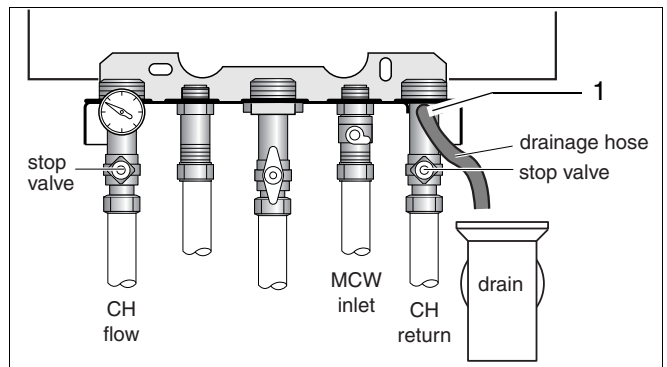

fig. 39 Draining the boiler
- Connect drainage hose (fig. 39).
- Connect draining hose to draining point on the manifold (fig. 39, item 1).
- Open draining point to drain the boiler (fig. 39, item 1).